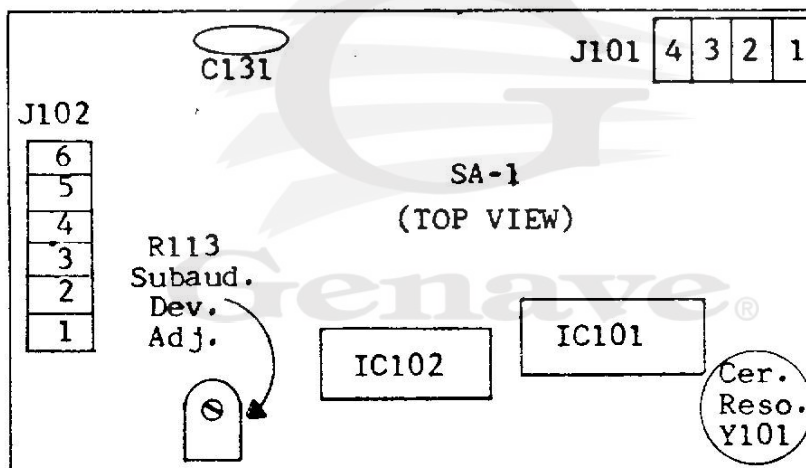

Figure 4-6. Tone-Frequency Adjustment
3. If subaudible-tone frequency is between 67 and 131.8 Hz, connect pin 8 of IC102 to pin 14 of IC101; but, if frequency is between 136.5 and 250.3 Hz, connect pin 8 of IC102 to pin 6 of IC101. Refer to Figure 4-6.